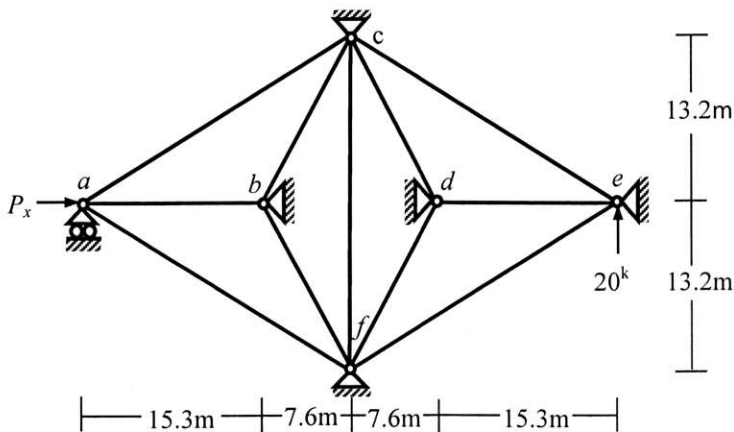

**Figure 1**
1. Determine the joint deflections and rotations of the beam loaded as shown in **Figure 1** [Given:  $EI = 16,500 \text{ kN-m}^2$ ].